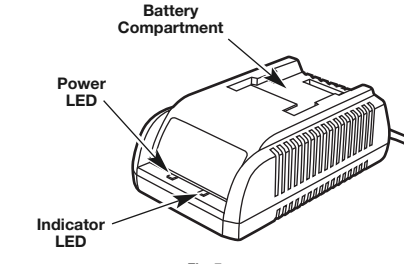

Fig. 7
2. The red Power LED will illuminate (Fig. 7).
- NOTE:** Make sure the battery is fully inserted into the charger by making sure the red Indicator LED charge light is on (Fig. 7).
4. Once the battery has reached a full charge level the Indicator LED will turn from red to green (Fig. 7).